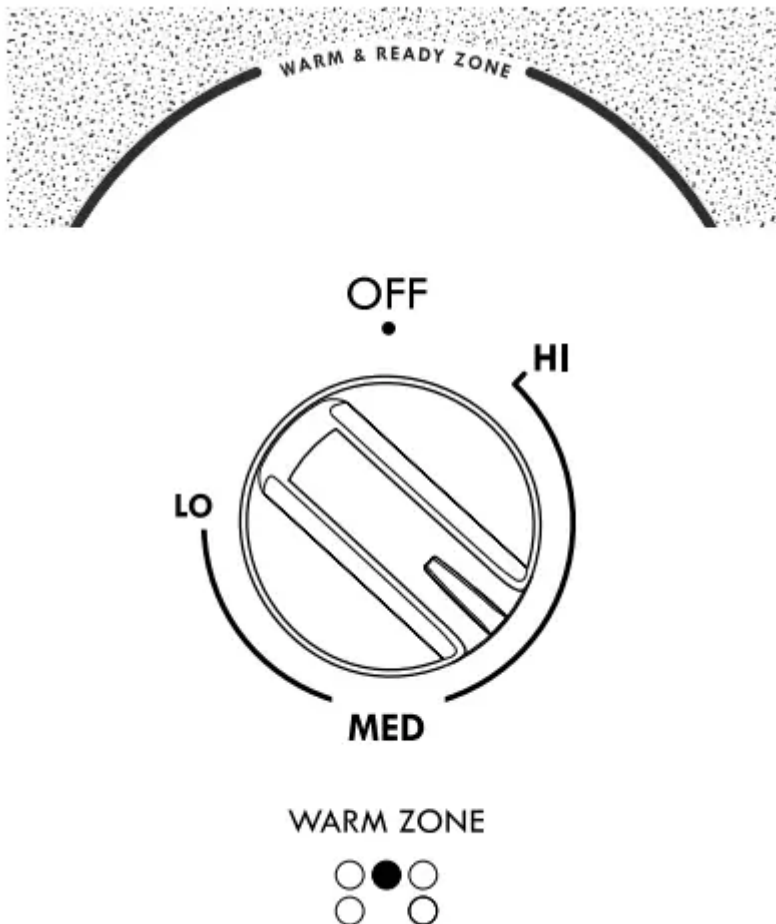

Figure 15: Warm zone element
The purpose of the warmer zone is to keep hot cooked foods at serving temperature. Use the warmer zone feature (See Figure 15) to keep cooked foods hot such as; vegetables, gravies, casseroles, soups, stews, breads, pastries and oven-safe dinner plates.
1. Push in either direction and turn the warmer zone control knob to the desired temperature level (See Figure 15). The temperatures are approximate, and are designated by HI (high), MED (medium) and LO (low). However, the control can be set at any position between HI and LO for different levels of warming.